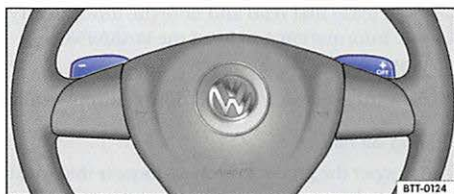

Fig. 126 Steering wheel with optional Tiptronic shift paddles.
- The paddles ⇒ fig. 126 work when the selector lever is in Drive (D) or Sport Drive (S). You do not